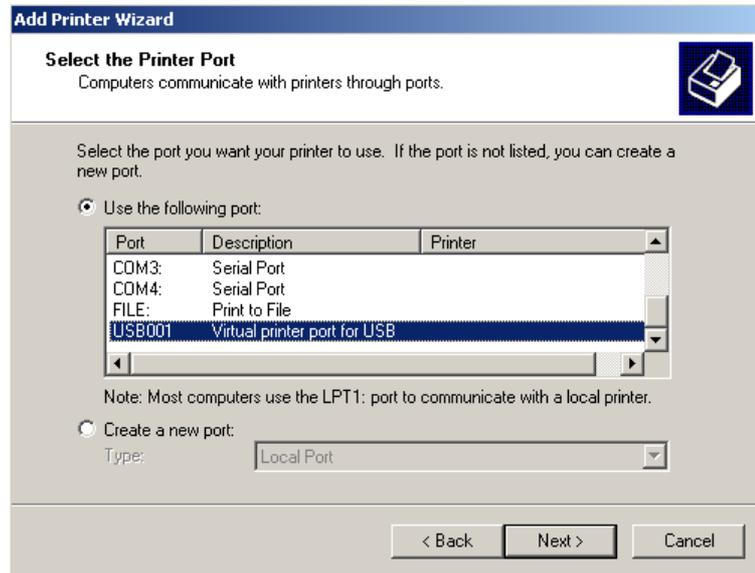

Figure 3-36 Select Printer Port
9.) Select the corresponding Printer Port (e.g., Figure 3-36 = USB001) and click NEXT.